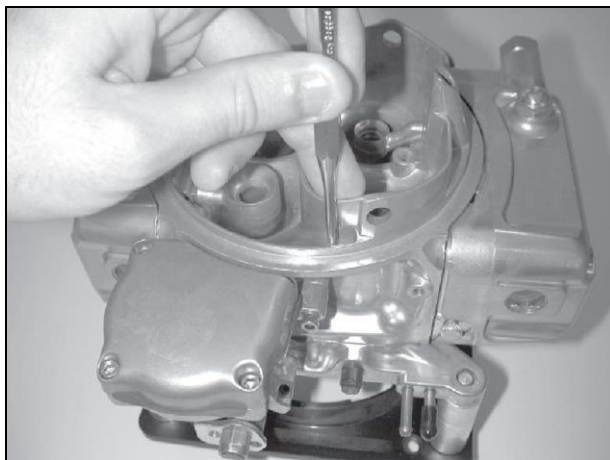

Figure 4
3. Using a small drift pin punch (Fig. 4), knock out the sealing slug on the right side of the choke horn in the main body. It is precut at the factory and should press out very easily. Once you've removed the slug, deburr the hole to make sure the choke rod doesn't bind or hang.